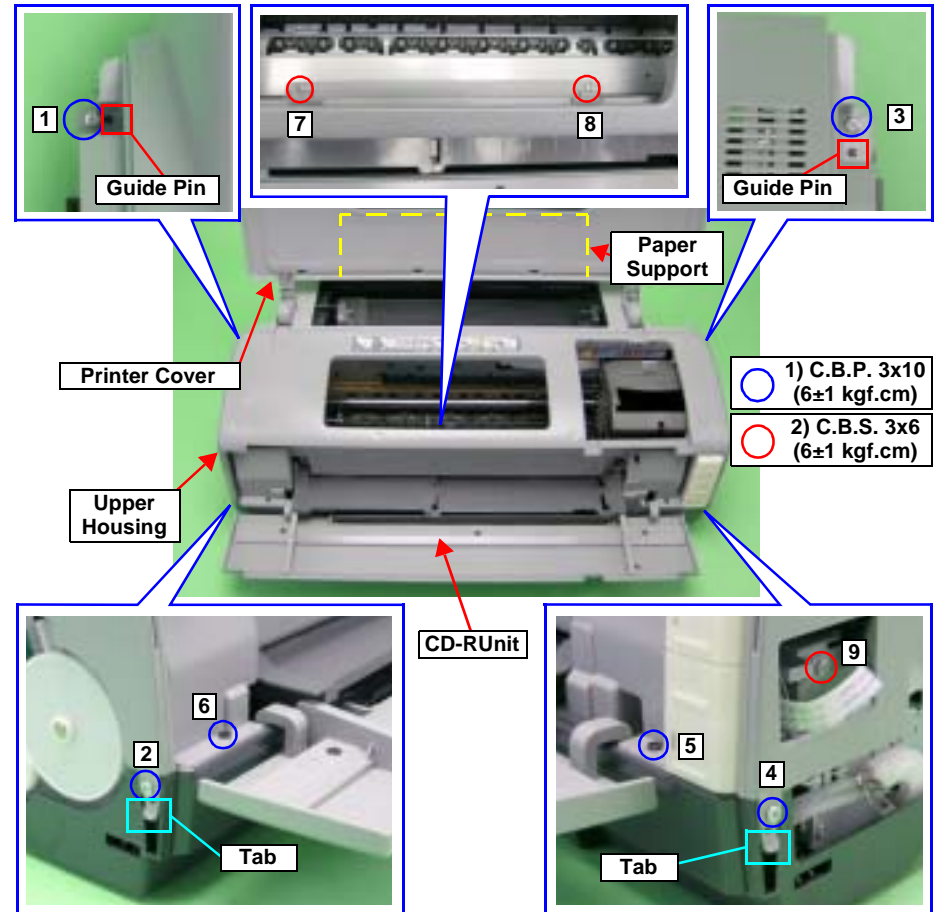

Figure 4-7. Screws that Secure the Upper Housing
- Remove the Guide Pins from the two Tabs shown in Figure 4-7., and remove the Upper Housing upwards.
- Align the Guide Pins with the positioning holes on the Upper Housing. See Figure 4-7.
- Referring to Figure 4-7., correctly route the Panel FFC and CD-R Sensor Cable.
- Tighten the screws in the order shown in Figure 4-7.